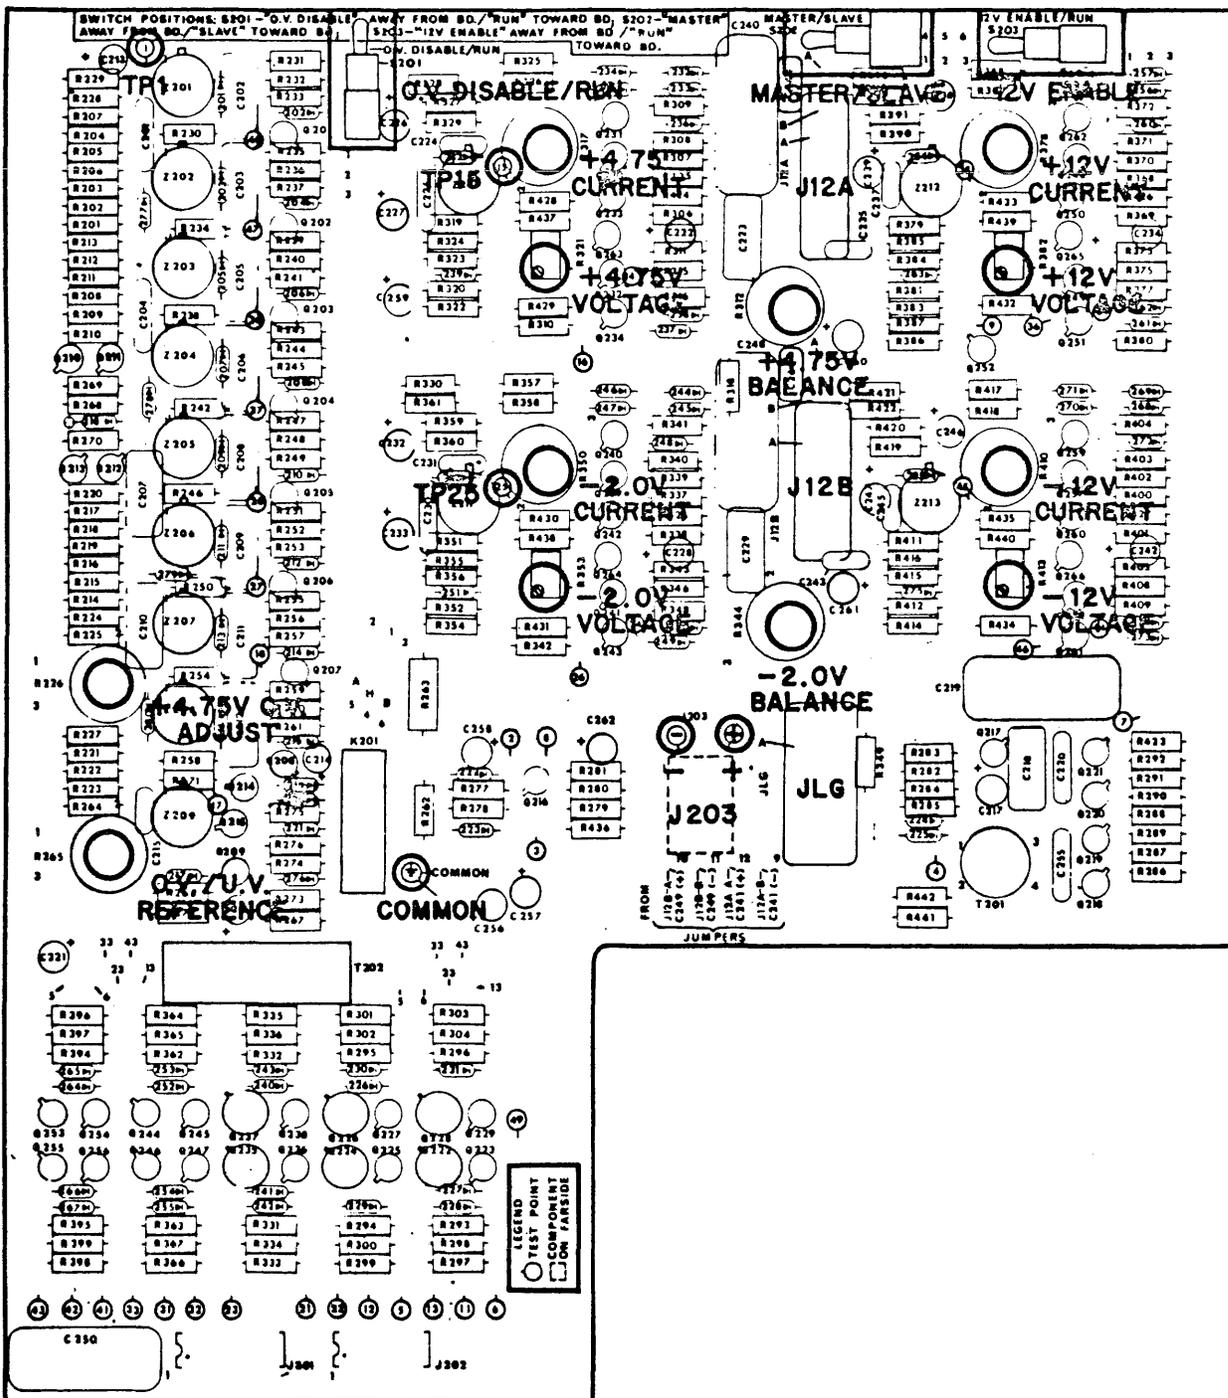

Figure 4-2. Regulator Board Control and Test Point Locations
- c. Preset the potentiometers as indicated in table 4-1. All are located on the regulator board. Refer to figure 4-2.